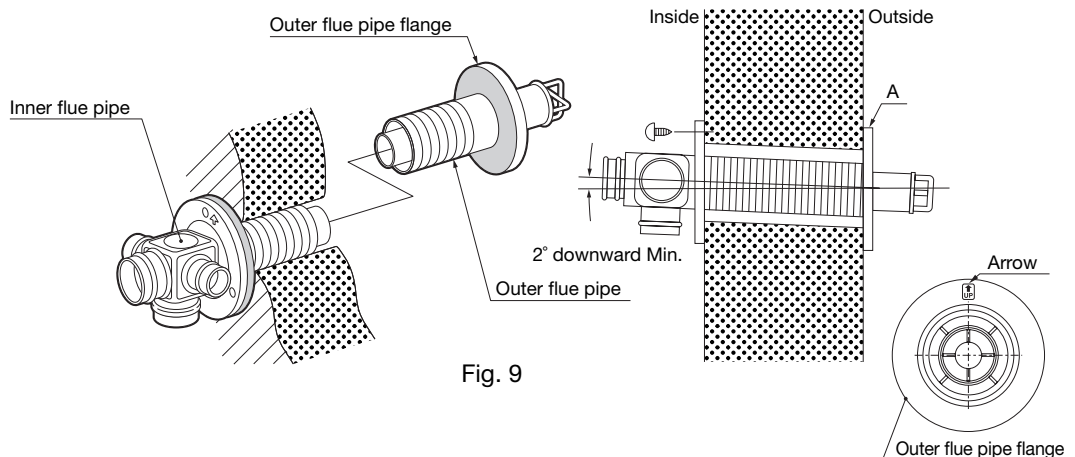

Fig. 9
c. From outside, insert the outer flue pipe through the hole. Secure the outer flue pipe to the wall by turning it clockwise. This locks the two halves together (See fig. 9).
IMPORTANT: Make sure the arrow on the outer flue pipe flange is pointing up. Make sure to secure the outer flue pipe well. (A-part shown in Fig. 9) Check inside flue pipe for insulation and remove if any.